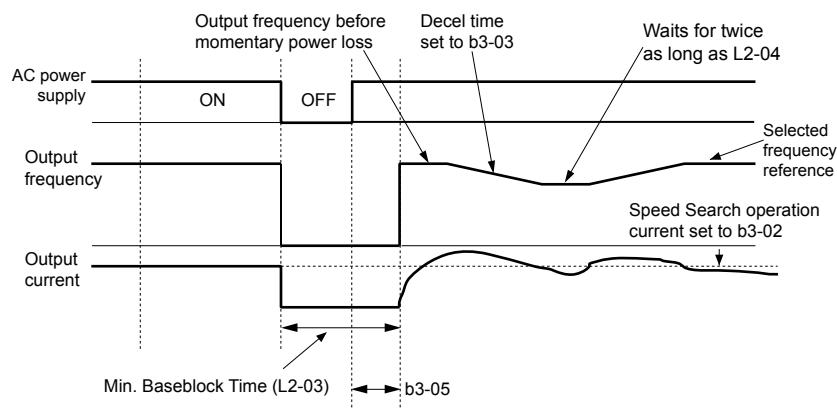

Figure 5.19 Current Detection Speed Search after Power Loss
**Figure 5.19** illustrates Current Detection Speed Search operation after a momentary power loss (L2-01 must be set to 1 or 2):